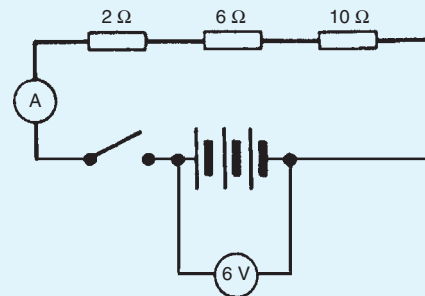

Figure 5.57
- With the switch in Fig. 5.57 closed the ammeter reading will indicate:
- A $6\ \Omega$ resistor is connected in parallel with the three resistors of Fig. 5.57. With the switch closed the ammeter reading will indicate: